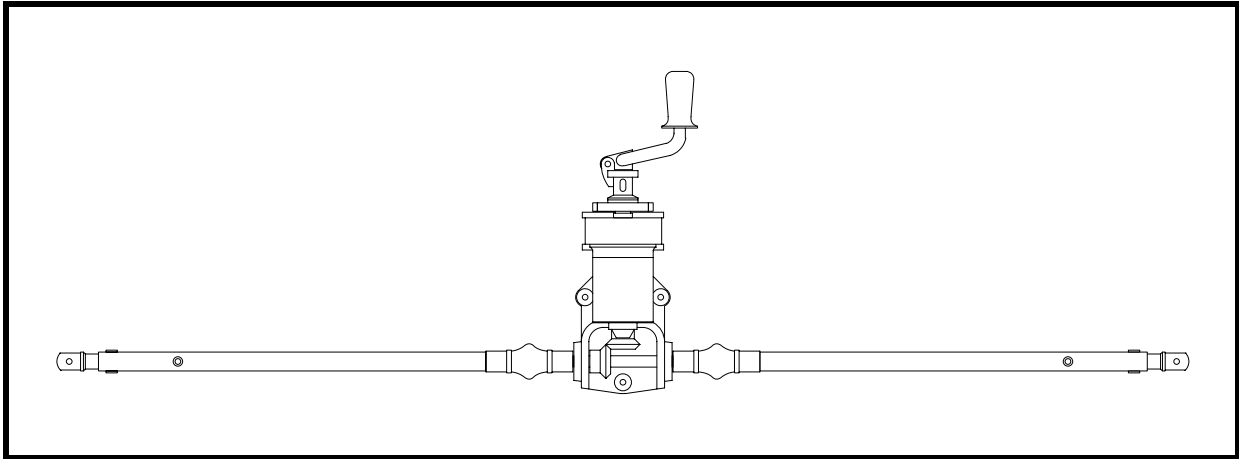

Figure 44
- ❑ Install P/N 530-1 landing gear motor assembly with the supplied hardware: AN3-17A (2), AN960-10L (2), MS21042-3 (2). See Figure 44.